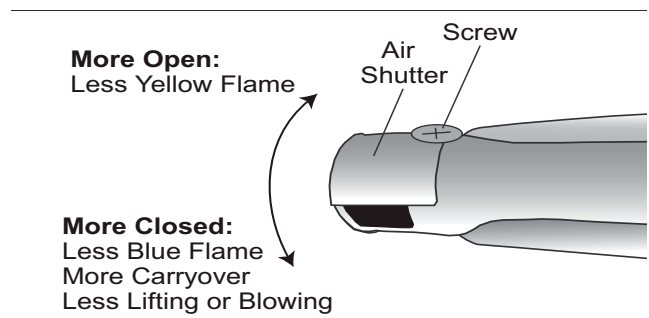

FIGURE 25: AIR SHUTTER ADJUSTMENT (IF NECESSARY)
Tube-style gas burners used in THERMADOR® appliances have air shutter systems which are similar to the illustration in Figure 25, and can be adjusted using the following method (unless adjustment is not recommended). It is necessary to remove the burner from the appliance in order to perform air-shutter adjustments.
- Adjust the shutter to more-closed position if the flame is lifting or blowing, or is not carrying over. Adjust the shutter to more-open position if the flame is too yellow (Figure 25).